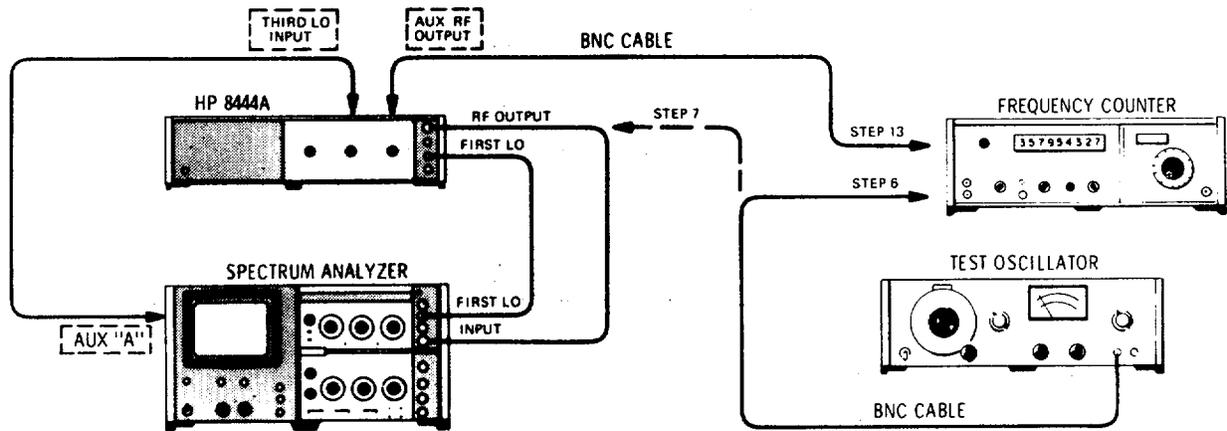

Figure 4-5. Frequency Accuracy Test Setup
2. Connect test setup as indicated in Figure 4-5 and make the following control settings: Spectrum Analyzer See paragraph 4-7 or 4-9.